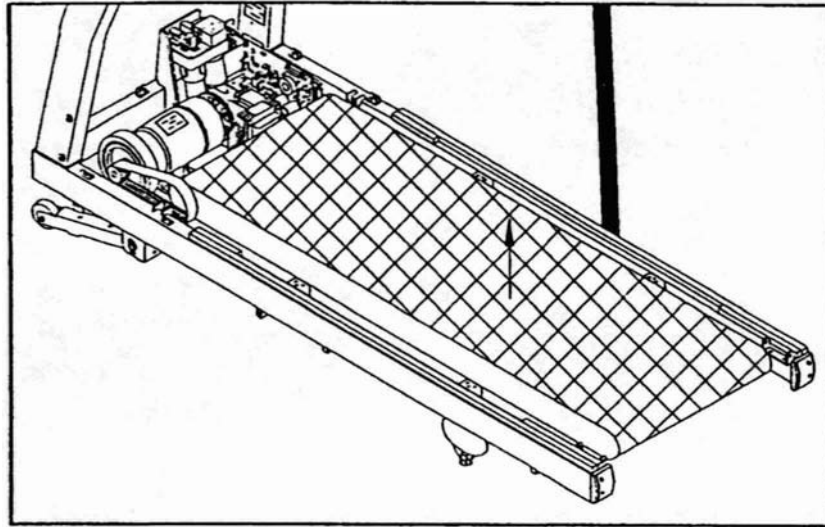

Fig.12
12. Remove the running belt. (see Fig.12)